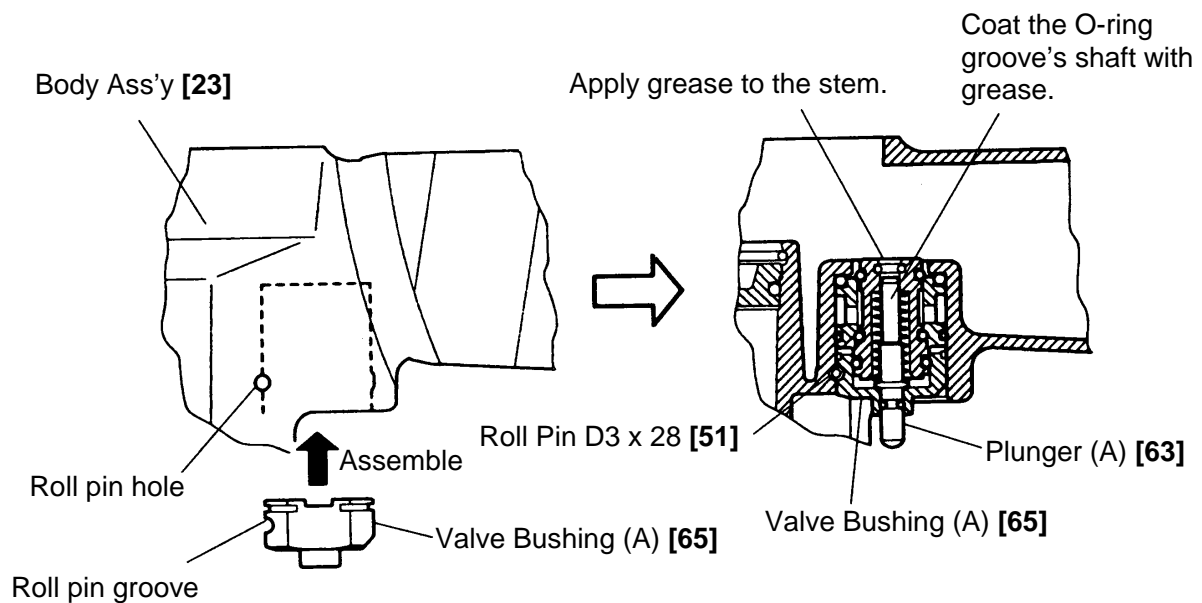

Fig. 19
- Thoroughly apply grease to the O-Ring (I.D 1.8) [64] on Plunger (A) [63], O-Ring (S-4) [60], (I.D 8.8) [58] and (I.D 11) [59] on Valve Piston (B) [61], and the shaft of Plunger (A) [63], as shown in Fig.19.
- As shown in Fig. 19, install Valve Bushing (A) [65] so that the roll pin groove in Valve Bushing (A) [65] will be aligned with the roll pin hole in the Body Ass'y [23]. First, insert a roll pin puller (3 mm dia.) into the roll pin hole. Then, upon confirming that the puller passes through the hole, drive in the Roll Pin D3 x 28 [51].